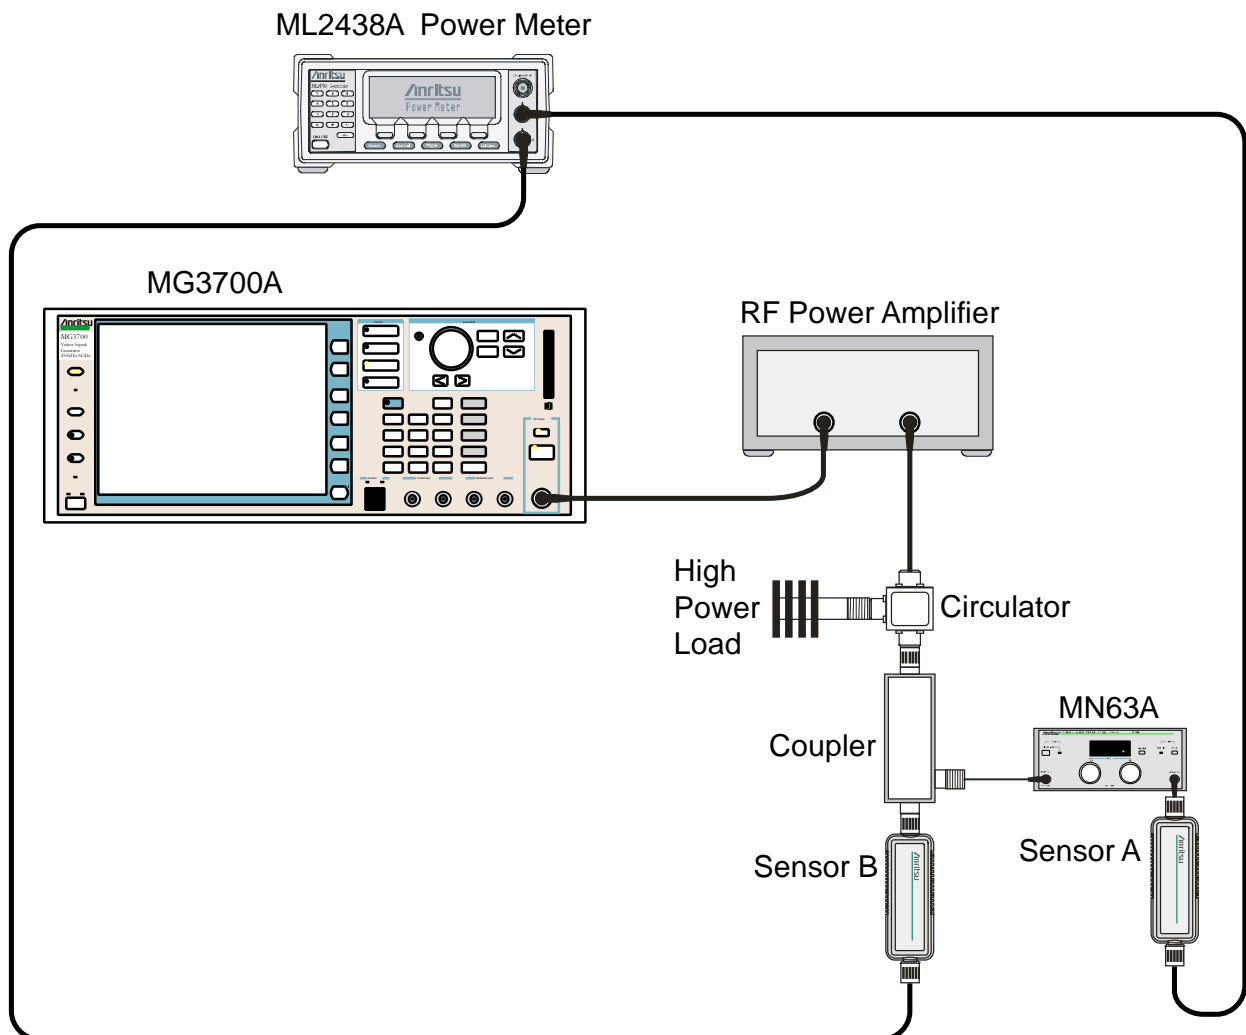

Figure 3-3. WCDMA Absolute Power Accuracy Verification — Characterization Setup
1. Connect the MG3700A, RF power amplifier, attenuator, power meter, and sensors as shown in Figure 3-3.
4. Press the **On/Off** key to turn on the MS2718B, MS2719B and wait until the measurement display appears. Then press the **Shift** key and press the **Mode** (9) key to activate the mode selection menu.
6. Press the **Shift** key, the **Preset** (1) key, and then the Preset soft key.